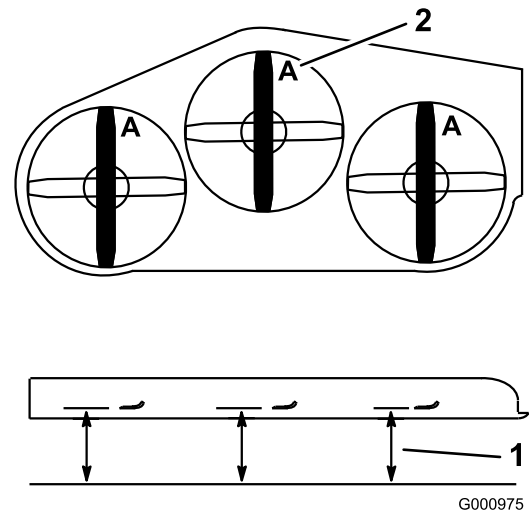

Figure 71
4. Measure at **A** and from level surface to the cutting edge of the blade tips (Figure 71).